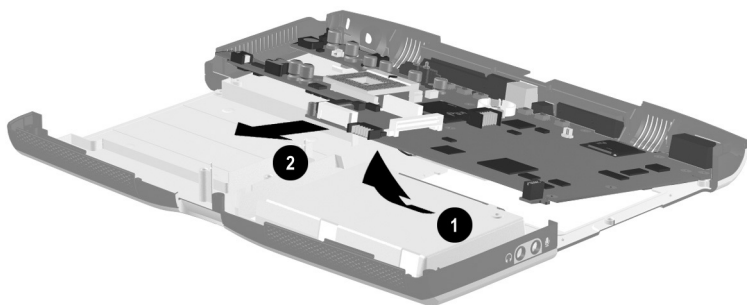

Figure 5-34. Removing the System Board
7. Lift the front edge of the system board ❶ until it clears the base enclosure (Figure 5-34).
8. Slide the system board forward at angle ❷ and remove it from the base enclosure.